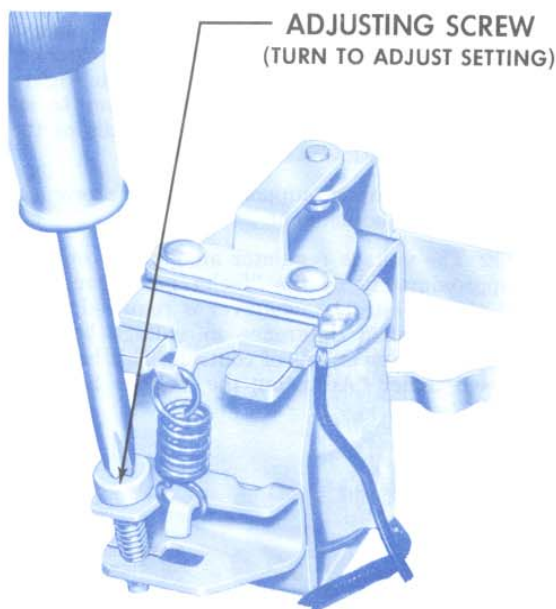

Figure 9—Adjusting the voltage regulator setting of the upper (shorting) set of contacts.
1. Upper set of contacts—To adjust the voltage setting while operating on the upper set of contacts, turn the adjusting screw as shown in Figure 9. Turn clockwise to increase voltage setting and counter-clockwise to decrease voltage setting.
1. To adjust the current setting, turn the adjusting screw in the same manner as described for the voltage regulator. (See Figure 9.) Turn clockwise to increase current setting and counter-clockwise to decrease setting.